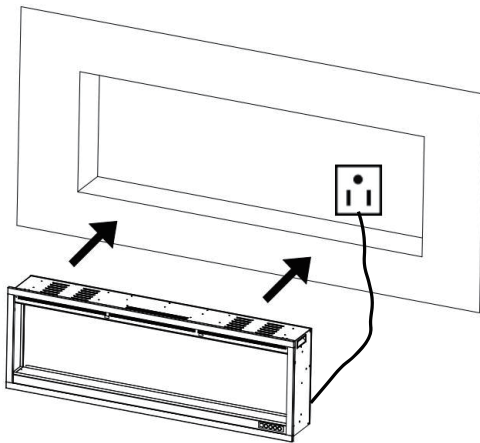
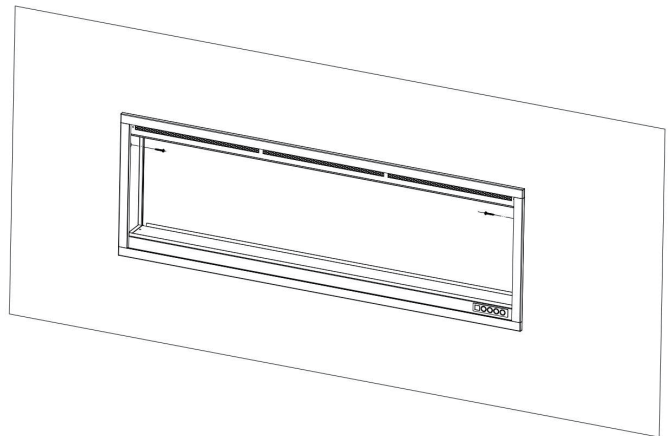

Fig. 2-3
Fig. 2-4
3. Power the fireplace by plug-into the wall receptacle. **Fig.2-3**
4. Have two adult people to lift up the fireplace and insert it into the rough-in frame and then secure it by installing **2** wood screws **(B)** through the holes. **(Fig. 2-3, Fig 2-4)** . After that, re-install the metal brackets.